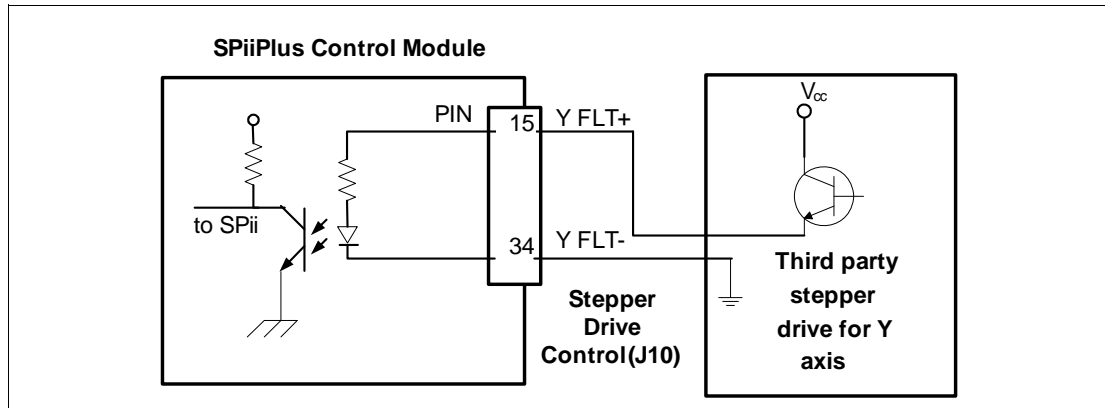

Figure 31 Connection To Drive With Source Fault Input (Y axis)
- ❑ **Figure 31** is an example of an **source**-type fault input. When the drive sends 5V/24V, the controller detects that a drive fault has occurred.